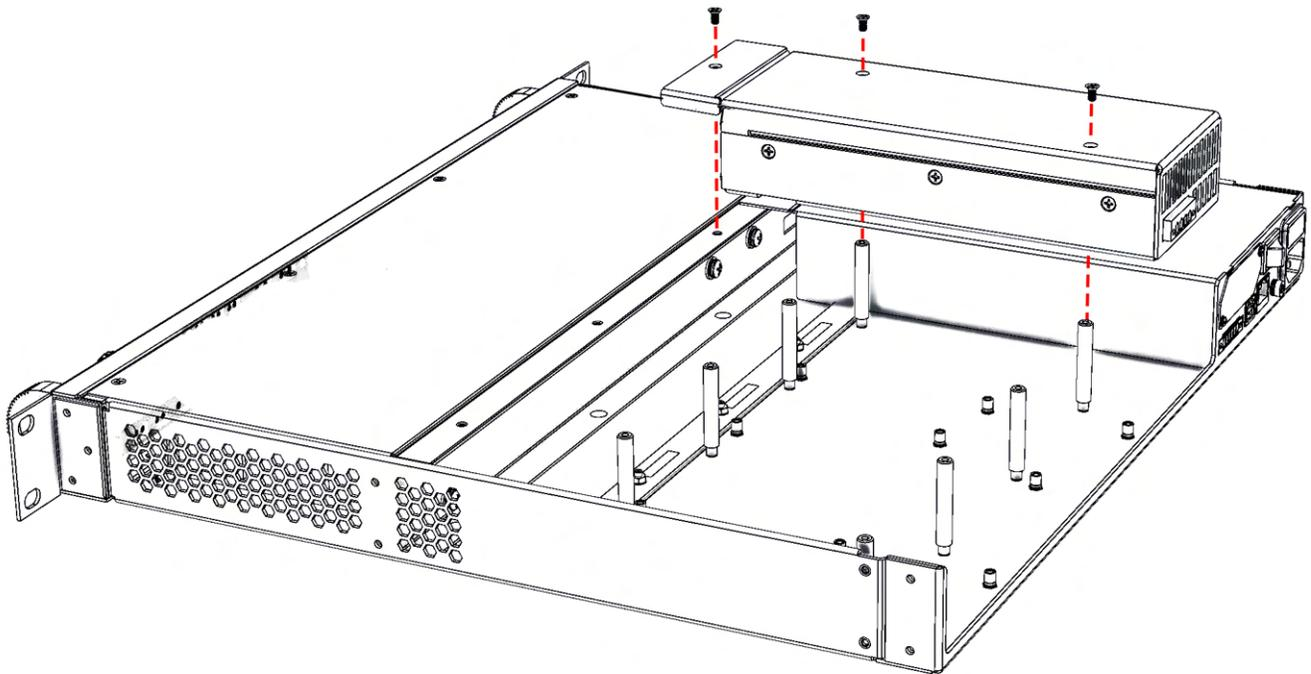

Figure 4.1 Align Modules
- Align the module over the pins and push it down onto the mainframe connector. See **figure 4.1**